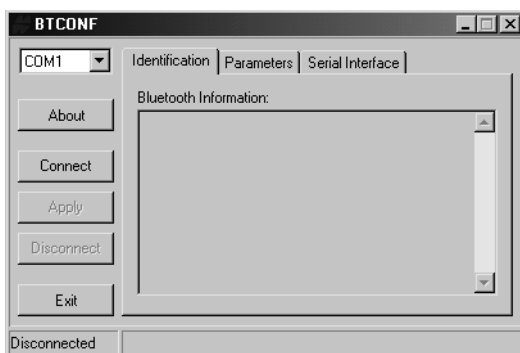

Figure 2-34. Bluetooth Module Configuration Main Screen
3. Run the Bluetooth module configuration program (Btconf.exe) (Figure 2-34).